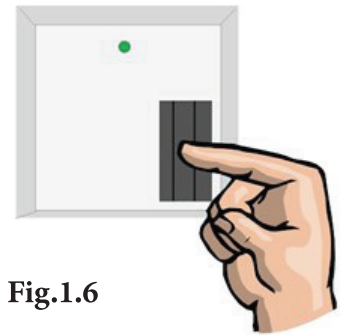

Fig.1.6
- Use the magnet to reset the sensor in the pool by holding the magnet on the face of the sensor for 2-4 seconds as shown in Fig1.6.
- When the magnet is removed after 2-4 seconds, ensure three (3) green flashes are seen from the LED in the top center position.